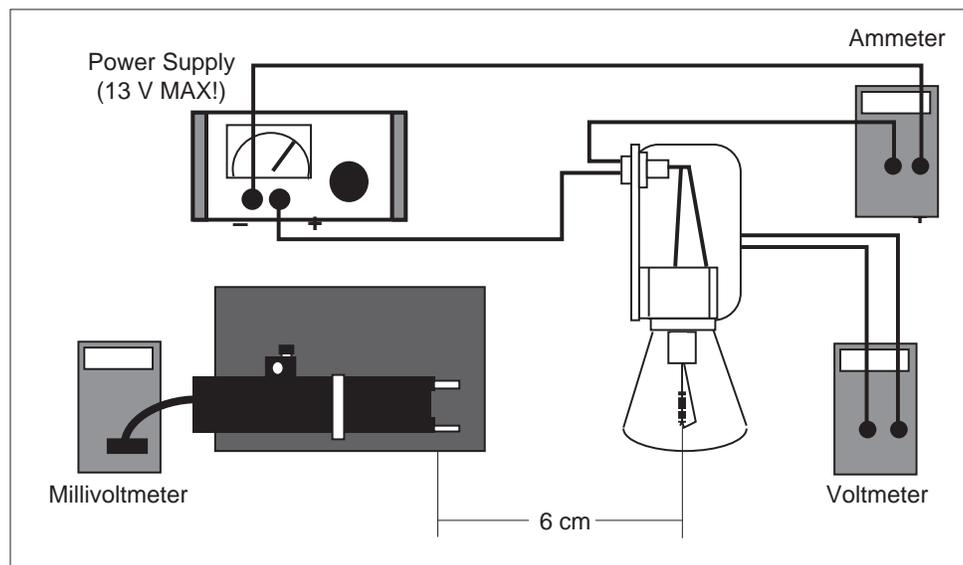

Figure 3.1 Equipment Setup
- ① **BEFORE TURNING ON THE LAMP**, measure  $T_{\text{ref}}$ , the room temperature in degrees Kelvin, ( $K = ^\circ\text{C} + 273$ ) and  $R_{\text{ref}}$ , the resistance of the filament of the Stefan-Boltzmann Lamp at room temperature. Enter your results in the spaces on the following page.
- ② Set up the equipment as shown in Figure 3.1. The voltmeter should be connected directly to the binding posts of the Stefan-Boltzmann Lamp. The Sensor should be at the same height as the filament, with the front face of the Sensor approximately 6 cm away from the filament. The entrance angle of the thermopile should include no close objects other than the lamp.
- ③ Turn on the power supply. Set the voltage,  $V$ , to each of the settings listed in Table 3.1 on the following page. At each voltage setting, record  $I$ , the ammeter reading, and  $\text{Rad}$ , the reading on the millivoltmeter.